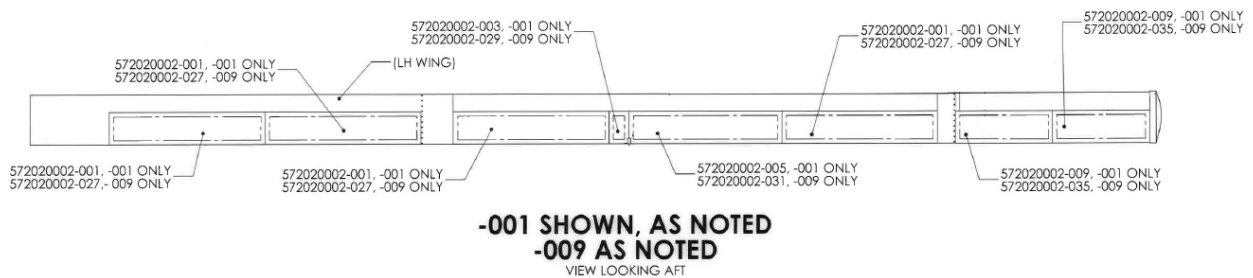

Figure 8-1
2. Locate -003 / -029 and -005 / -031 (510) or -013 / -039 and -015 / -041 (660) shields at stall horn, verify fit. (Reference Figures 8-1 & 8-3)
3. Locate remaining shields on both wings as shown in Figures 8-1 through 8-4 starting with those located closest to rivet rows.